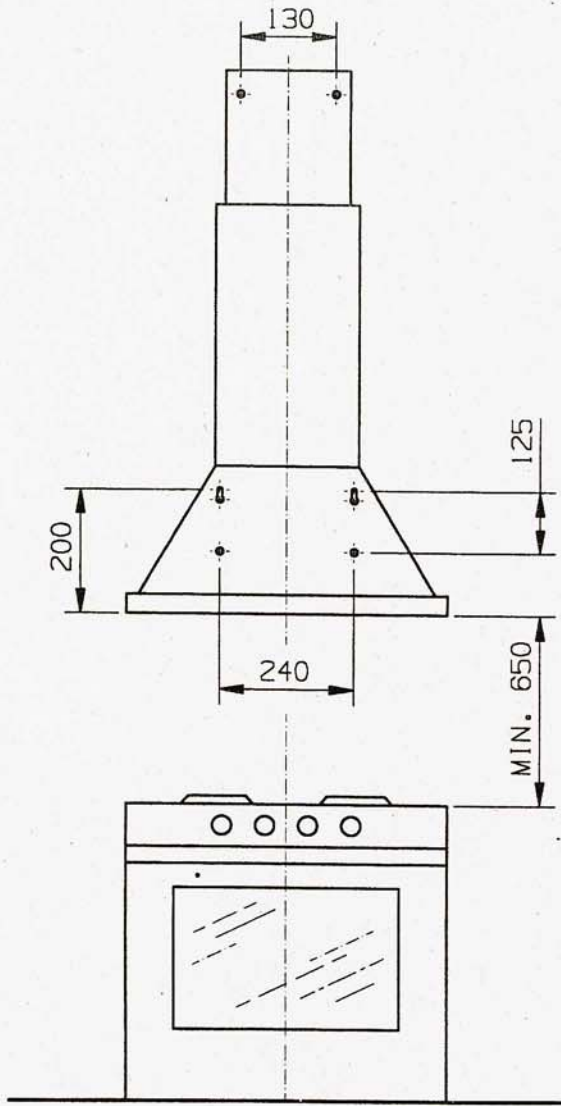

Fig. 1
- 2) Drill the holes checking any tubes or electrical wires to be damaged. Place first the superior «tacos» and screws of the hood on the wall (Fig. 1).